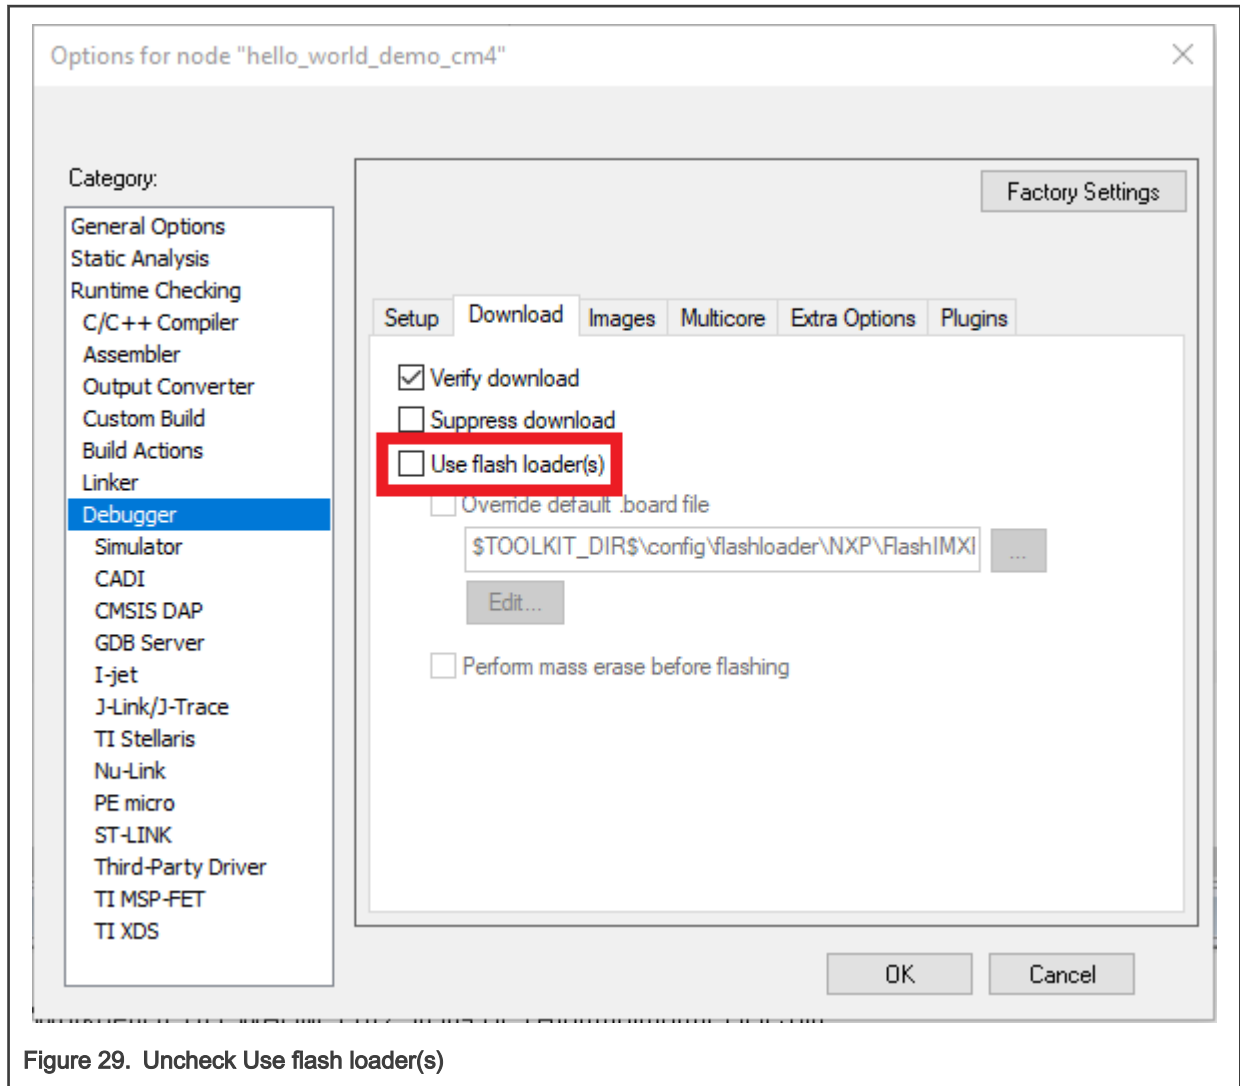

Figure 29. Uncheck Use flash loader(s)
- When downloading the `cm4` project, uncheck **Use flash loaders**, as shown in Figure 29, and change the contents of command line options as below: